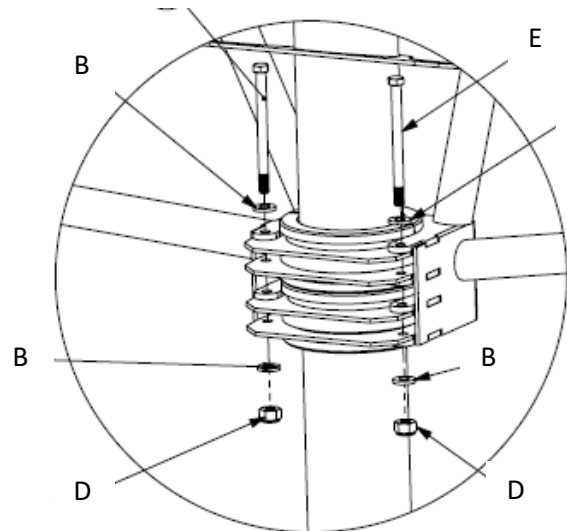

Figure 41: Nose gear installation.
- Tighten the lock-nuts sufficiently, observe the correct placement of washers and bearings (refer to Figure 41) and note that the bolts are installed with the bolt heads head facing up.